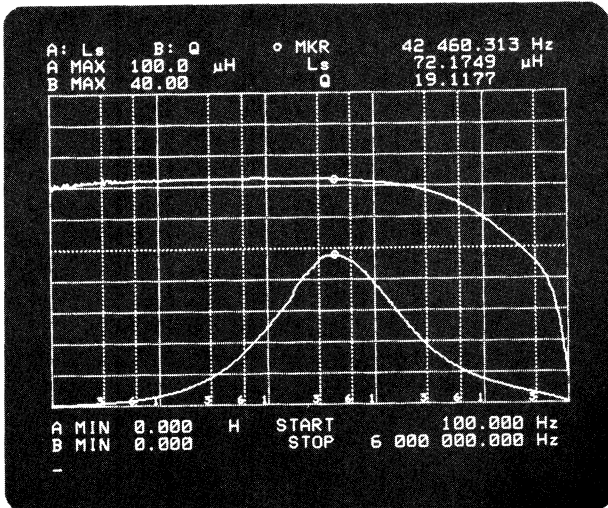

Figure 9. Inductance and Effective Q Frequency Characteristics
Pressing the MKR LOURS, menu and MKR MAX(B) causes the maximum Q value and the corresponding frequency to be displayed. (See Figure 9.)